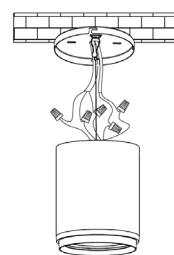

Fig. 4
4. Connect the wires as per the wiring diagram and local electrical code. (Fig. 4)